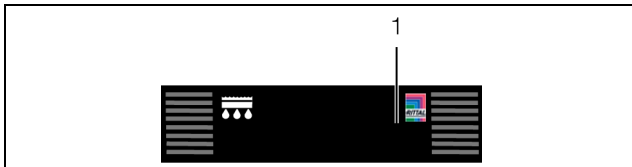
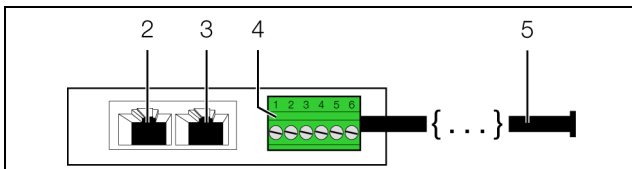

Fig. 9: Front of the leak sensor
Fig. 10: Rear of the leak sensor
A multi-LED for the status display is integrated into the front of the leak sensor (fig. 9, item 1). Further LEDs are located at the rear on the CAN bus connection (fig. 10, items 2 and 3).